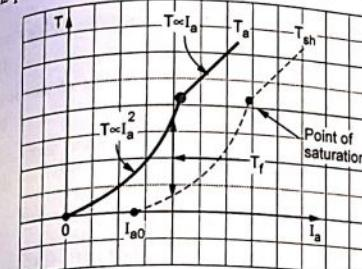

Fig. 8.9.1 T Vs  $I_a$  for series motor
Thus torque in case of series motor is proportional to the square of the armature current. This relation is parabolic in nature as shown in the Fig. 8.9.1.
- The difference between  $T_a$  and  $T_{sh}$  is loss torque  $T_f$  which is also shown in the Fig. 8.9.1.